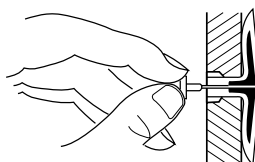

Figure 10 - Popping Open Anchor Wings For Thin Walls
4. For thin walls (1/2" or less), insert red key into wall anchor. Push red key to "pop" open anchor wings (see Figure 10). **IMPORTANT:** Do not hammer key! For thick walls (over 1/2" thick) or solid walls, do not pop open wings.